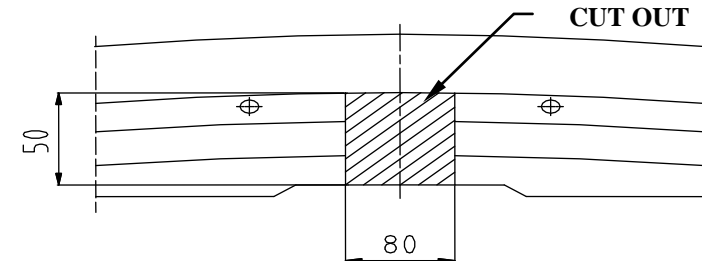

Fig.2.
3. In maked holes put sleeves  $\varnothing 17$  mm (pos. 8), length = 73 mm.
4. To rear side put main bar of towing hitch (pos. 1) in that way, so holes pos. A agree to holes for unscrewed reinforcement and fix using bolts M8x35mm (loosely) – pos. 12.
5. Elements (pos. 4 and 5) put to chassis members and rear side and fix using bolts M10x110 mm (pos. 10) and M10x35mm (pos. 11).
6. Assemble masking cover and bumper after cut his fragment 80x50mm – see fig. 2.